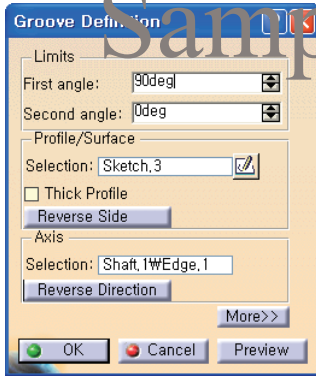

Fig 6-8 Limit Values
4. Press the **Reverse Direction** button in the dialog box, if required, such that the direction of the arrow appears as shown in Fig 6-8 **C**.
5. Input the limit values as shown in Fig 6-8. The preview is updated.